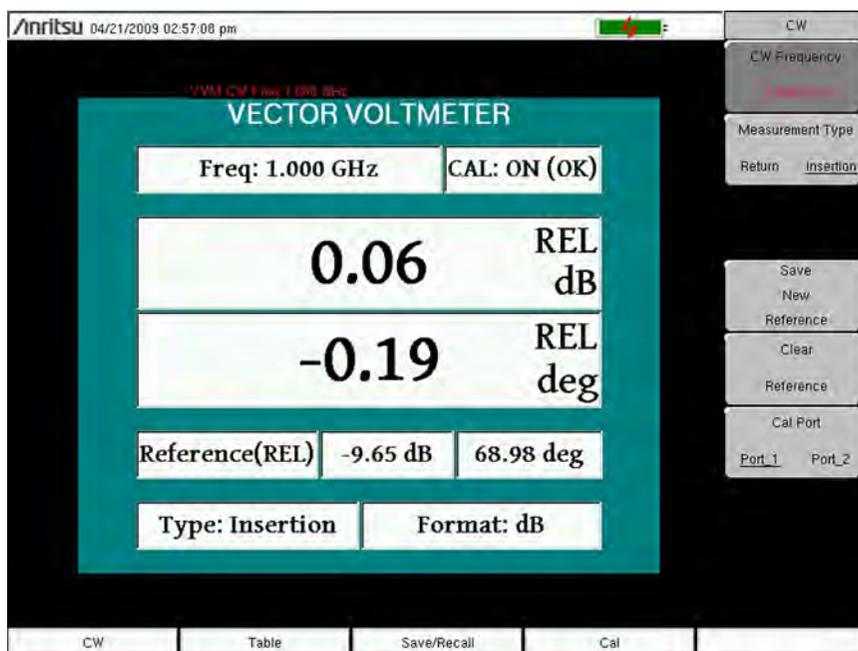

Figure 11-5. Continuous Wave Menu with Relative Measurements
4. As shown in Figure 11-5, the Vector Voltmeter saves the current measurement in a new reference window and converts the main measurement window to display the difference between the current measurement and the saved reference. In other words, saving a reference will normalize the results to the current measurement. When relative measurements are displayed, REL is indicated in the main measurement window.